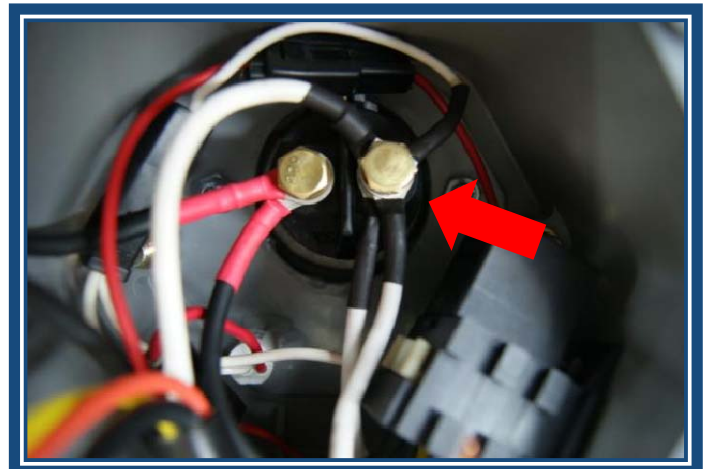

Figure 21
**Step 21:** Connect the white wire (8) from the main harness to the dual pole negative (M). Strip the end of the white wire (8) approximately  $\frac{1}{4}$ ". Slide a piece of the black heat shrink over the wire. Insert the stripped wire into the  $\frac{1}{4}$ " eyelet from the bag kit, crimp and solder. Place the heat shrink over the connection and apply heat. Connect the eyelet to the dual pole negative (M). Tighten properly. (See Figure 21)